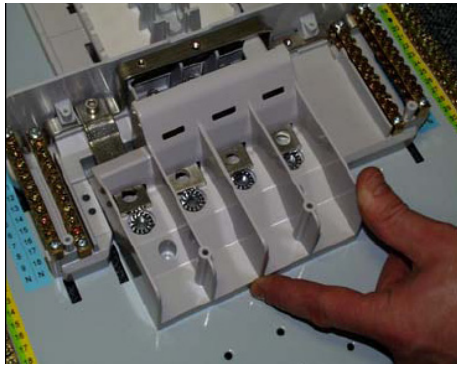

Fig 6
- Locate the incoming moulding under the main busbar connections so that the nuts align with the fixing holes. (Fig 6).